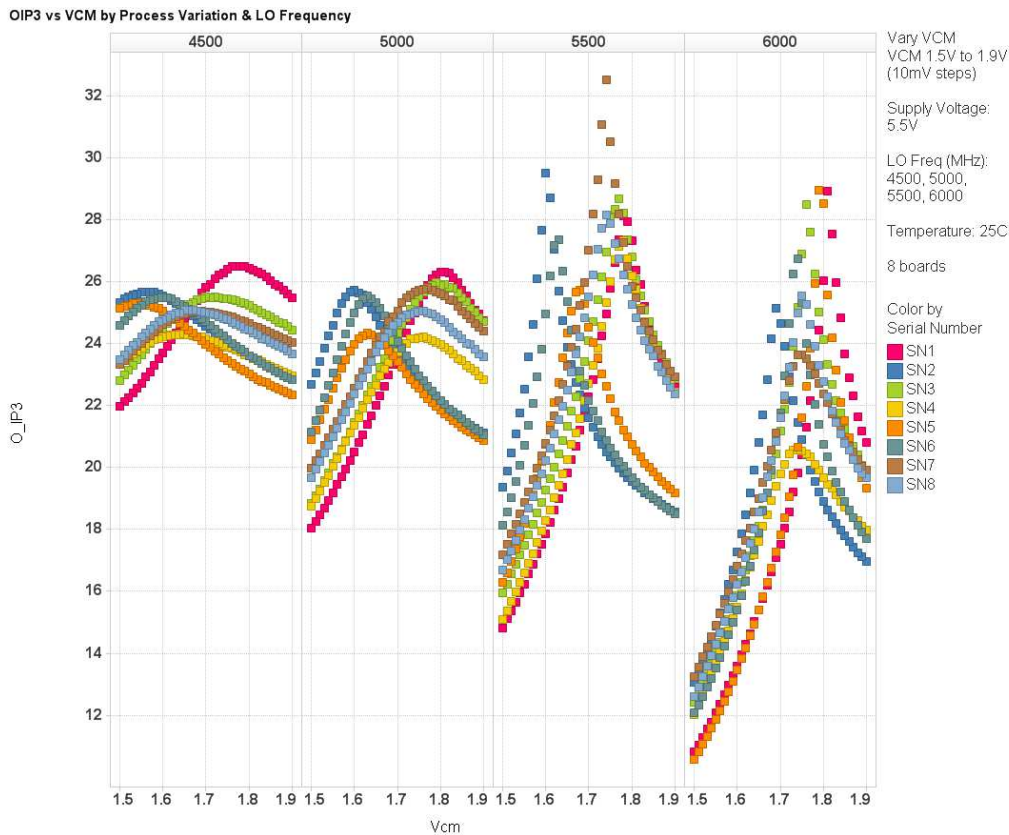

Figure 8. TRF370417 OIP3 vs Vcm - Process Variation at LO Frequencies (MHz) = 4500, 5000, 5500, 6000
The goal of Figure 5 through Figure 8 is to identify trends in the optimal Vcm setting vs supply voltage, temperature, process variation and baseband input voltage.
Figure 8 shows that the optimal Vcm setting varies with process variations. This implies that to obtain optimal OIP3 performance, perform a unique Vcm calibration on each unit.
4. Implement a OIP3/Vcm calibration procedure, see Figure 5 to Figure 8, and sections Section 3 and Section 4